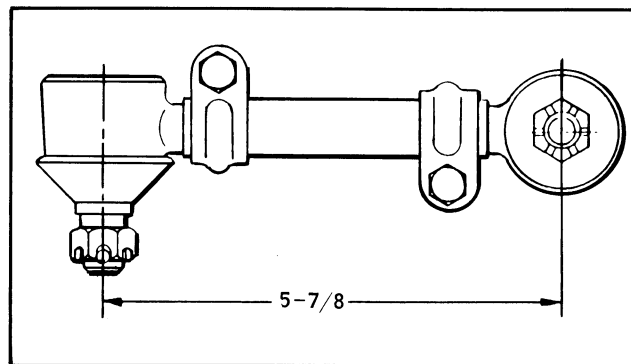

Figure 2-8. Tie Rod Adjustment
The tie rod (Figure 2-8) is made up of two ball joints
threaded into a sleeve. The distance from the centers of the ball joints should be 5-7/8 in. as shown in Figure 2-8. Each ball joint should be adjusted an equal amount of threads to achieve this measurement.
3. See Figure 2-8. Loosen the clamp nuts and turn ball joints in or out of sleeve to achieve proper length.